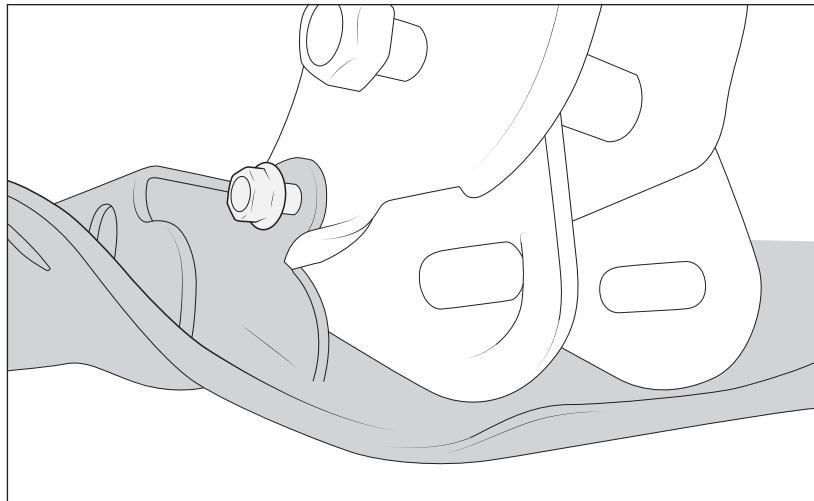

Figure 17
- F. Install M12x35mm bolts and washers to rear inboard skid plate mounts, pointing toward rear of vehicle (fig. 17). Install M12 flange nuts to all four rear mounting bolts.